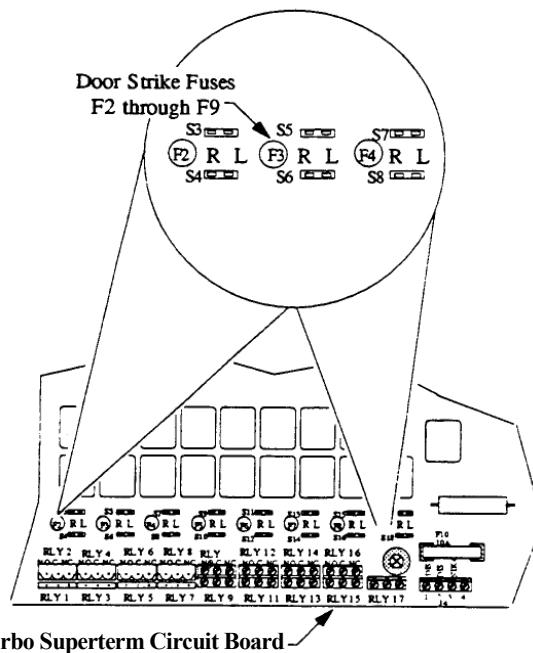

Figure 52 - Door Strike Fuse Location
Eight 2-ampere (2A) slow-blow fuses protect the door strike circuits. These fuses are located in line across the lower center surface of the Turbo Superterm circuit board (see Figure 52).
2. Locate the faulty door strike fuse (F2 - F9) (see Figure 52).